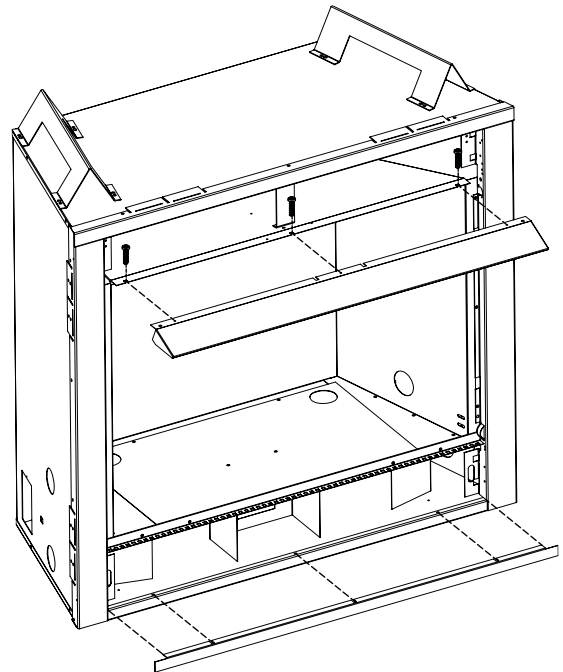

Figure 34
2. Remove canopy by removing screws and pulling canopy away from unit. *See Figure 34.*
See Figure 34.